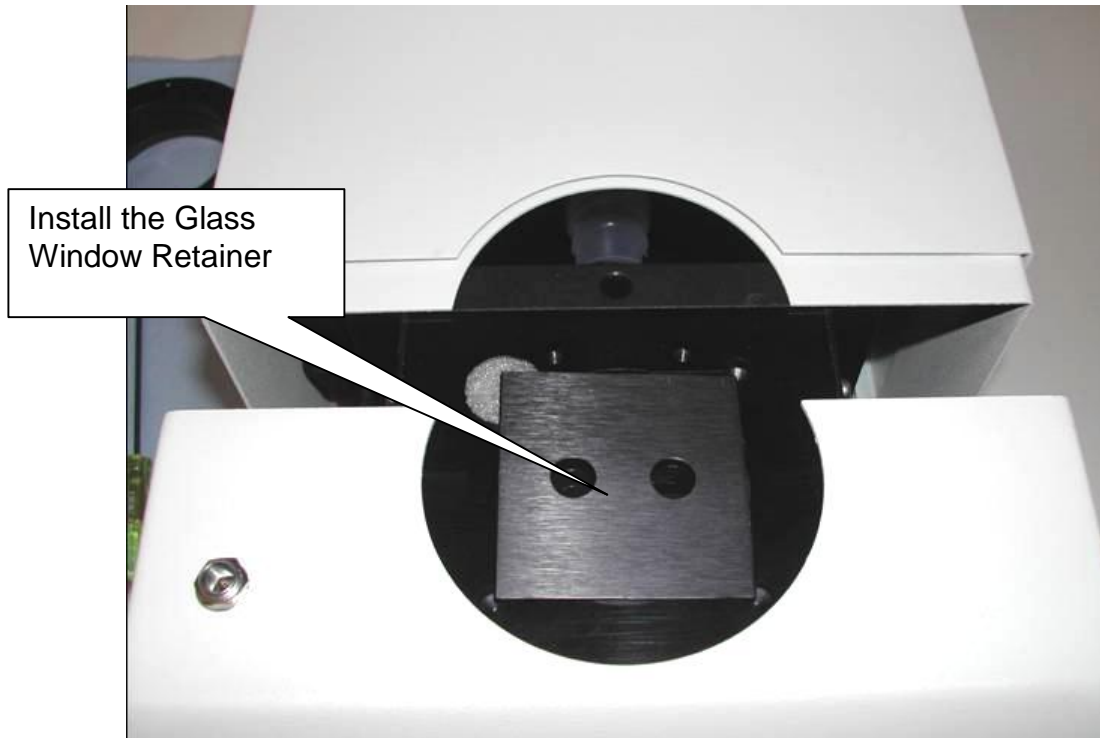

Figure 12
- J Install the View Glass Retainer **Figure 12**